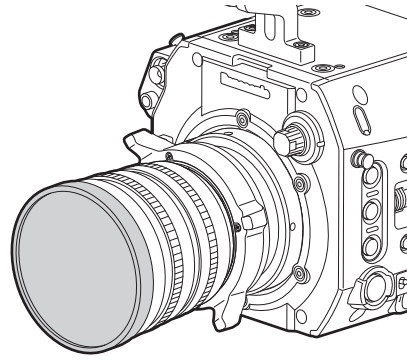

Fig. 2
- 2 Align the convex portion at the upper right of the lens mount with the concave portion at the lens mount to mount the lens. (Fig. 2)